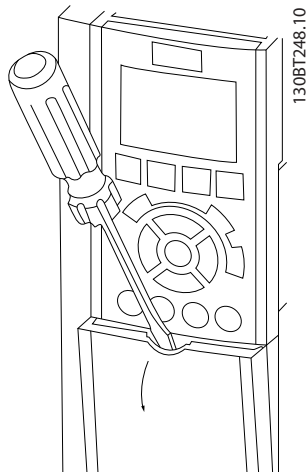

Figure 2.17 Control Wiring Access for A2, A3, B3, B4, C3 and C4 Enclosures
- Remove access cover plate with a screw driver. See Figure 2.17.